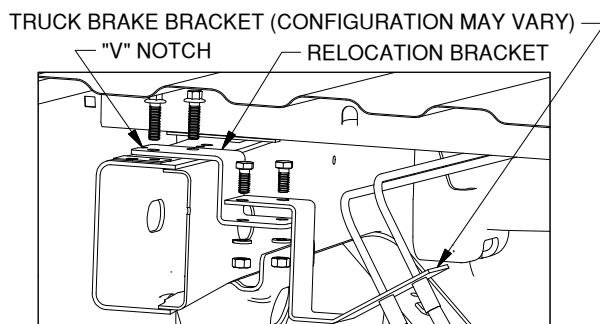

Figure A1: View looking at cut-away of frame over the axle.
1. **Install relocation bracket.** A small "L" shaped relocation bracket is provided to change the location of a frame mounted bracket. This bracket holds the brake lines close to the inside of the driver side frame. Adding the relocation bracket will move the brake lines so there is room to install U-bolts. Disconnect the truck brake bracket by removing the two bolts on top of the frame. Attach the relocation bracket to the top of the frame using the same holes and hardware. Re-attach the truck brake bracket to the holes in the relocation bracket with two 5/16" cap screws, lock washers, and nuts, see Figure A1.